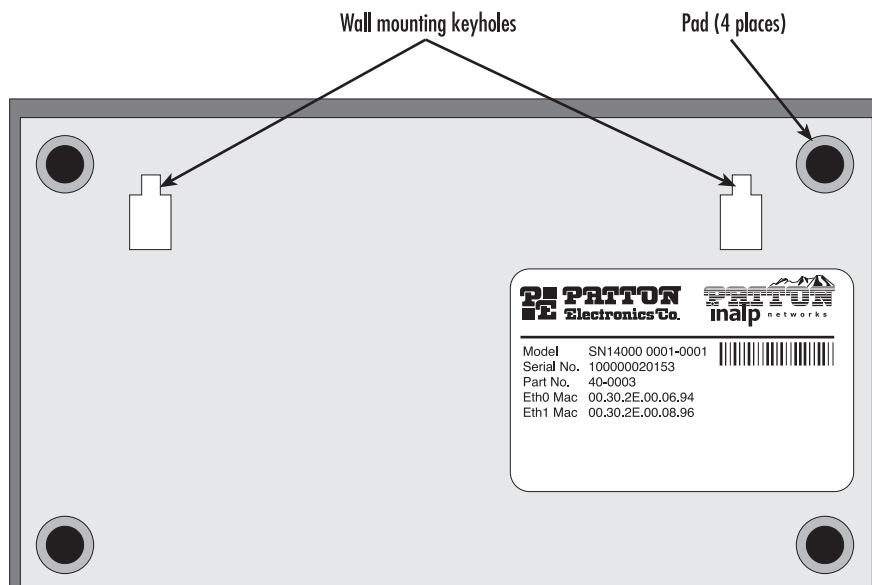

Figure 34. Pads and wall-mounting keyholes locations
1. Remove one of the rubber pads from the adhesive strip (included in the SmartNode installation kit pack) and place it on a corner on the bottom of the SmartNode 1200 (see figure 34).
- Install the (user-provided) wall anchors. Any standard anchoring method may be used, such as wood screws; butterfly anchors/molly bolts (for installation into a sheetrock/drywall or plasterboard surface); or expansion bolts (for installation into a concrete or masonry surface). The anchor screw heads must have just enough clearance to allow the wall-mounting key holes (see figure 34 on page 65) to slip onto them when hanging the SmartNode 1200.